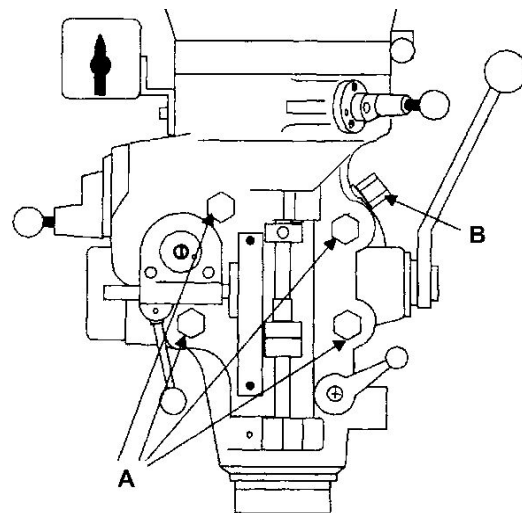

Figure 10-4: Mill head movement - rotation
1. Loosen four large hexagonal nuts (A, Figure 10-4) that secure mill head to ram adapter. One-quarter (1/4) turn should be sufficient to allow the head to move.
2. Turn worm shaft (B, Figure 10-4) to rotate head left or right as required. Use scale on ram adapter to set desired angle.